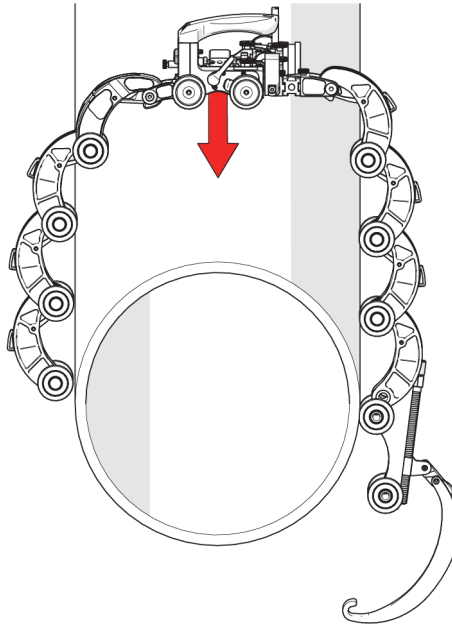

Figure 3-4 Drape onto pipe
5. Drape the configured assembly around the pipe that will be inspected (see Figure 3-4 on page 83).